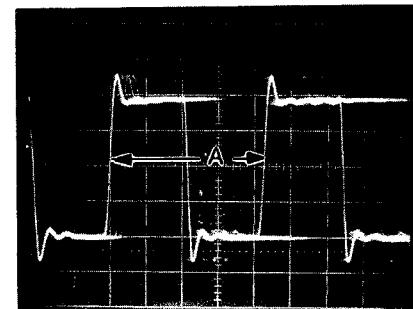

Fig. 28
- Adjust A = 0.21 ± 0.01 μ sec. of Fig. 28 with R312 in the luminance section of PV01.
- Focus the scope on the first multiple waveform trace (Fig. 28).